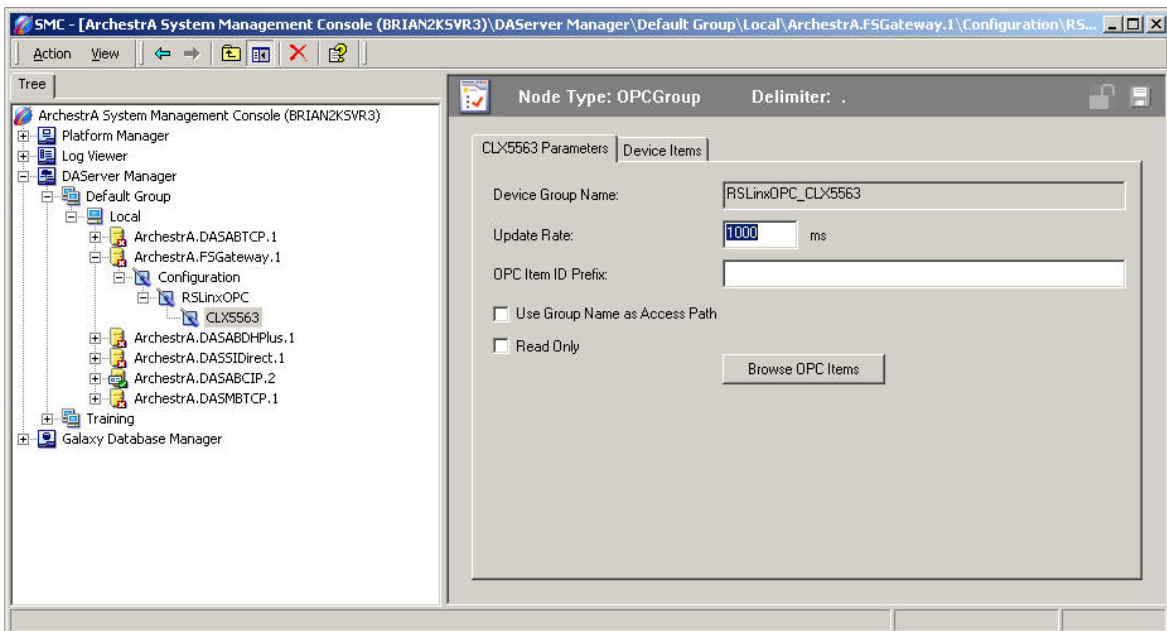

FIGURE 10: OPC GROUP PARAMETERS
- Rename the default New_OPC_Group_000 to a meaningful name such as **CLX5563** (Figure 10 below):
15. Click **OK** to return to the OPC Group Parameters tab field as shown in Figure 10 above.